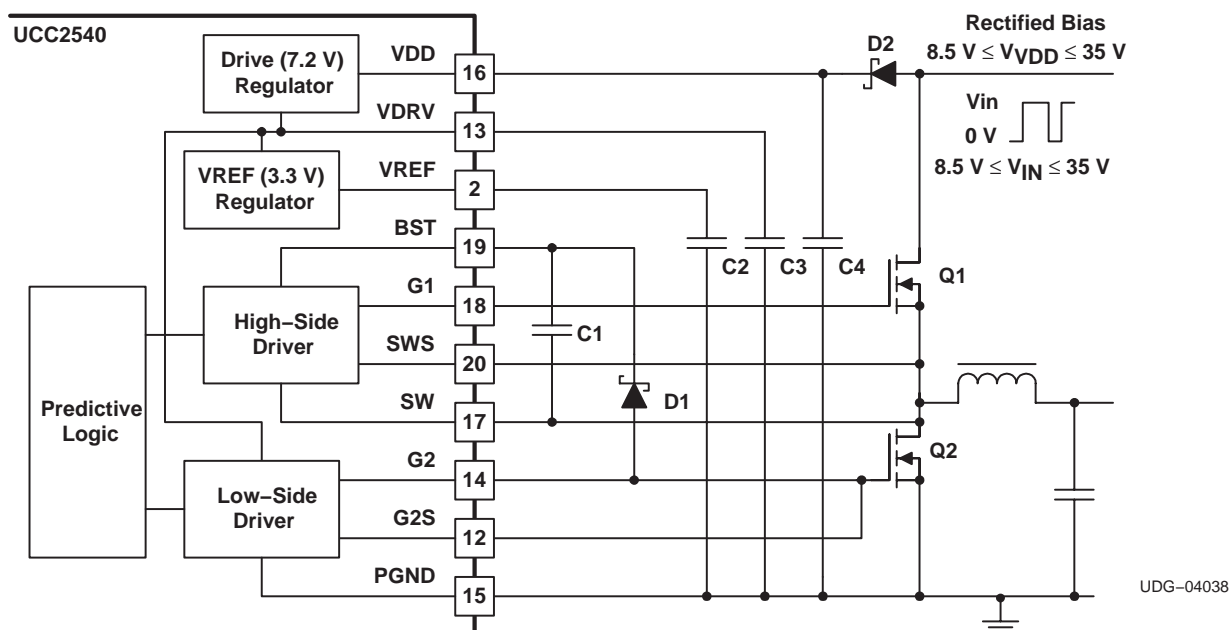
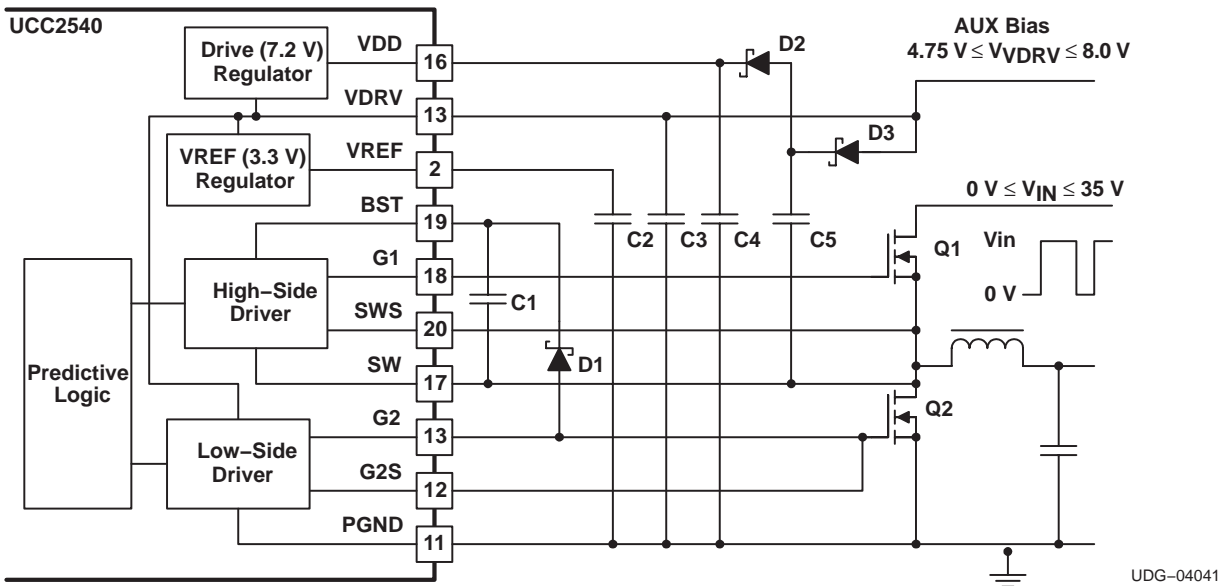
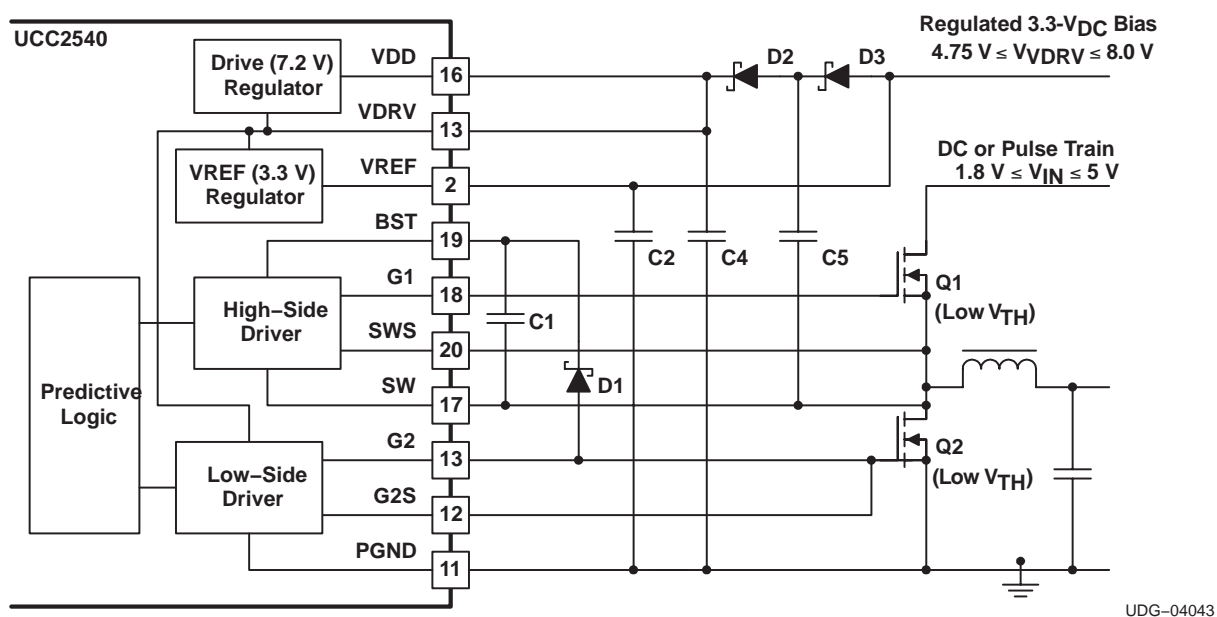

Figure 13. Mode 1 With Rectified Biasing for Input Voltages Between 8.5 V and 35 V
Figure 16. Mode 2 With Auxiliary Biasing for Bias Voltages Between 4.75 V and 8.0 V
Figure 18. Mode 3 With Regulated 3.3-VDC Bias
- Mode 1, or normal operation requires the availability of a bias of 8.5 V or higher for the device. Here, the bias drives the VDD pin. The low-side drive bias, VVDRV = 7 V, is generated from an internal linear regulator and it directly draws current from the VDD pin. The high-side driver bias is a flying capacitor that is charged from the VDRV pin through the G2 pin, when G2 is HI, via a diode between G2 and BST. The UCC2540 operates in Mode 1 if VVDD > (VVDRV and VVREF) when VVREF rises above 2 V. Mode 1 permits the widest range of bias voltages, operational from 8.5 V < VVDD < 35 V. This mode is compatible with systems that have a 12 VDC bias supply already available. Alternatively, Mode 1 is particularly useful for applications where the input line voltage varies over a wide range and the bias is to be derived directly from the reflected line voltage, such as in Fig. 13.
Assorted combinations of modes and biasing schemes are shown in Figure 13 through Figure 18. In Mode 1 and Mode 2, the bias voltage can either be an independent auxiliary supply or it can be generated by rectifying and filtering the reflected line voltage, as shown in Figure 13 through Figure 16. A regulated auxiliary supply must be used with Mode 3 because the tolerance of the VREF voltage is the control tolerance of the UCC2540. In Mode 3, the regulated auxiliary supply can be independent of the power supply input voltage (as shown in Figure 18) or, the regulated auxiliary supply can be the same source as the power supply input voltage.
Capacitors C1 through C5 are all part of a charge distribution network that allows the UCC2540 to pass charge to the MOSFET gates of Q1 and Q2 (all reference designators in this section refer to the schematics in Figure 13 through Figure 18). This section gives guidelines on selecting the values of C1 through C5 so that the converter functions properly. Specific capacitor values may need to be larger than the recommended value due to MOSFET characteristics, diode D1 – D4 characteristics and closed-loop converter performance. All three modes of operation require a charge pump capacitor and diode, C1 and D1, in order to drive the high-side power MOSFET. Modes 2 and 3 require additional charge pump capacitors and diodes in order to supply voltage to VDD. In general, all charge pump diodes should be Schottky diodes in order to have low forward voltage and high speed. The charge pump capacitors should be ceramic capacitors with low effective series resistance (ESR), such as X5R or X7R capacitors.